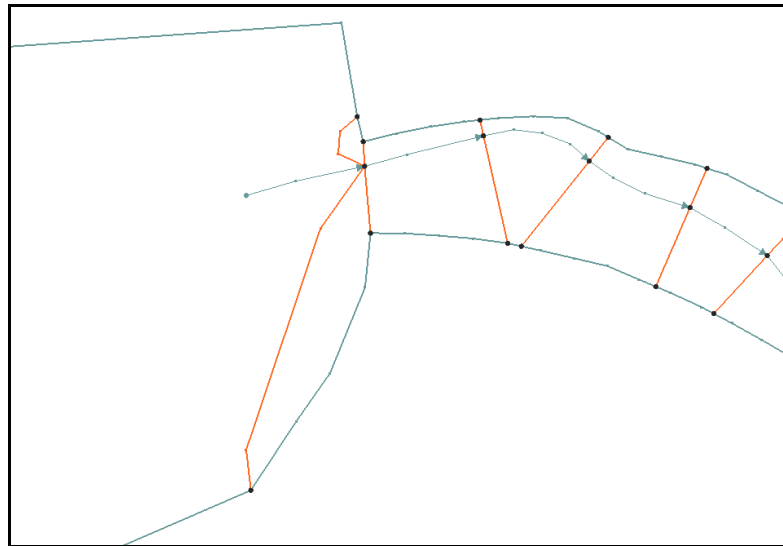

Figure 14 1D/2D Connection Arcs added at upstream end.
2. Click on the **Create Feature Arc**  tool and digitize two arcs connecting the upstream side of the 2D domain to the downstream node of the 1D weir boundary (Figure 14).